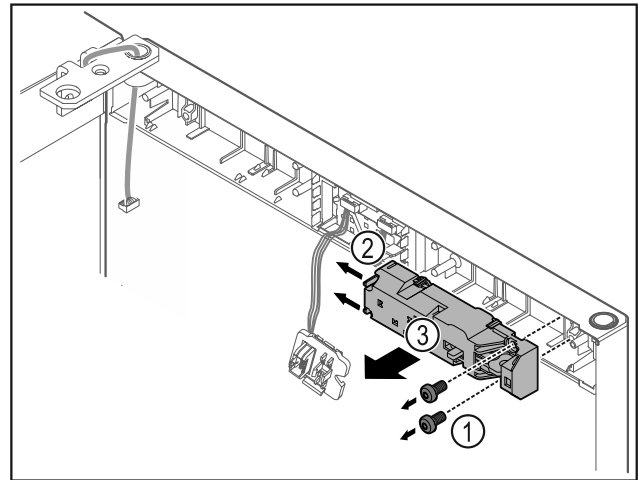

Fig. 18
- Remove the screws Fig. 18 (1).
- Press the latching lugs Fig. 18 (2) to the side and take off the remote lock Fig. 18 (3).